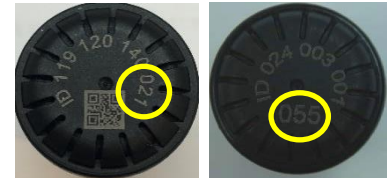
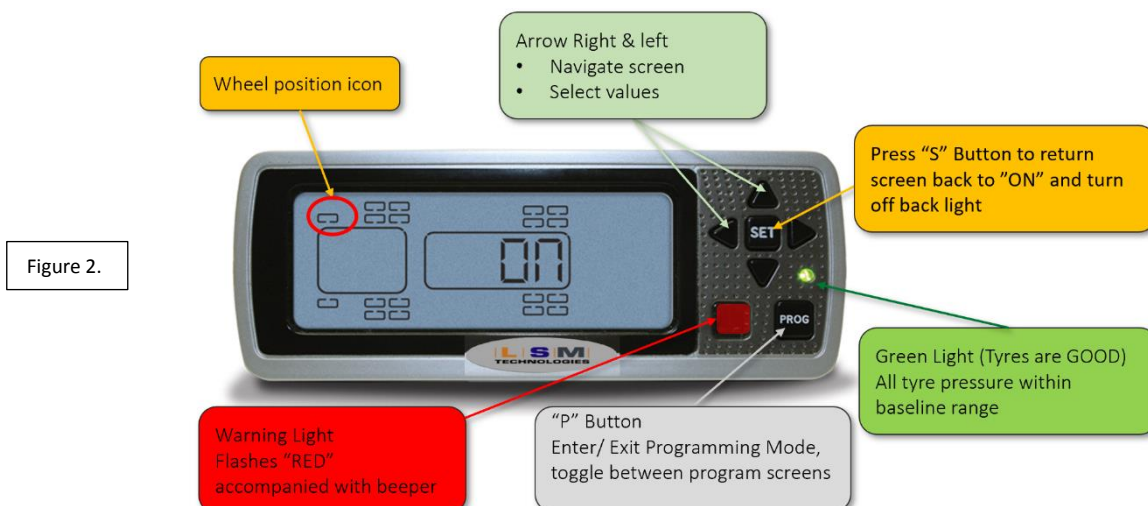

Figure 1.
Figure 2.
- i. **LOCK:** - To lock the monitor, with battery power to the monitor and ignition turned off, **PRESS** and **HOLD** the **UP & DOWN ARROWS** and **PROGRAM** buttons (Fig.2) at the same time. When the “**L**” appears on the screen, release the buttons – the system is now locked.
- c) **SENSOR ID TYRE POSITION:** - Use arrow keys to select the appropriate tyre position. **PRESS** and **HOLD** the **S** (Set) button (Fig. 2). The first dash in the display [- - -] will begin blinking. With the arrow keys, enter the 3-digit ID# (Fig.1) from the pressure sensor associated with the current tyre position. **PRESS** and **HOLD** the **S** button to save this 3-digit ID# to the position. The cursor will move to the next available position – with the arrow keys you can manually select the next tyre position to program. Repeat step b) until all the applicable Sensors ID#'s are programed.